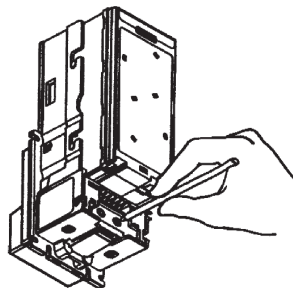

Figure 4
3. **Locate the service button** on the back of the unit (refer to Figure 4). Depress the button once to enter coupon set-up mode or generic coupon teach mode. Depressing again will exit the mode.